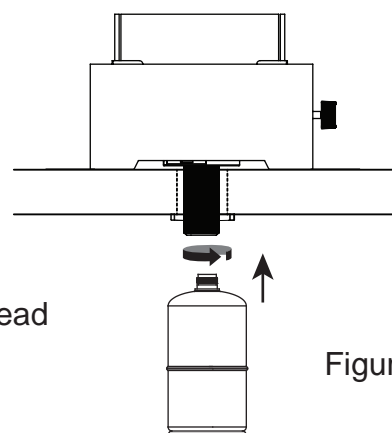

Figure 7
- (1). Before connecting, be sure there is no debris caught in the head of the burner or burner or burner ports.
- (2). Make sure the control knob is in the “OFF” position.
- (3). Lubricate the threads of the regulator with petroleum jelly. Line up threads on the propane cylinder with regulator.
- (4). Insert the propane cylinder.
- (5). Rotate the propane cylinder clockwise until they fit snugly together. **HAND TIGHTEN ONLY**. Be careful not to crossthread when screwing in cylinder (see Figure 7).
- (6). Perform leak test per “Checking for Leaks” section.